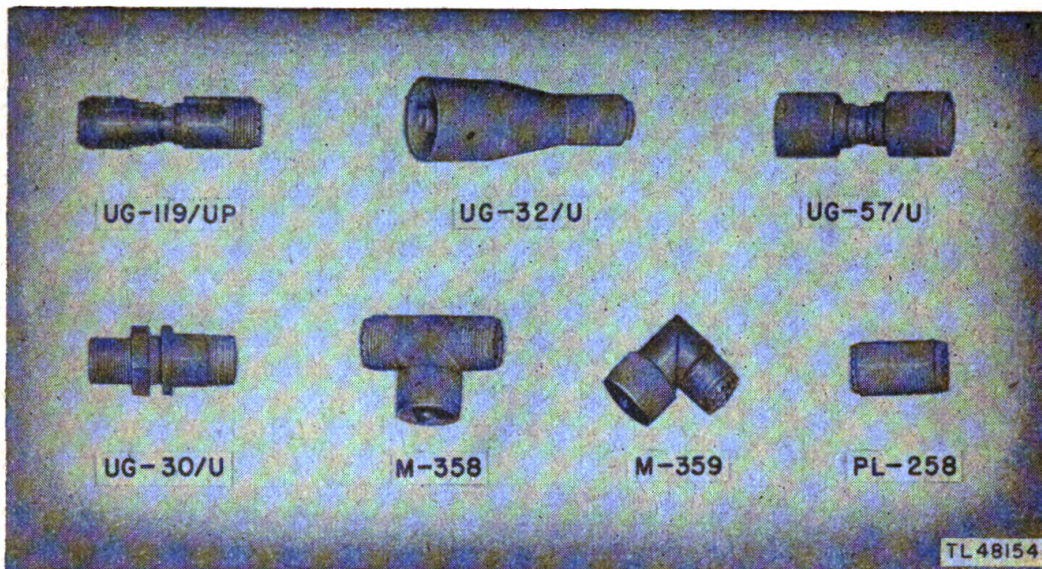

Figure 18. Adapters and plugs.
a. Adapter M-358 (fig. 18) is a T-type connector used to connect Dummy Antenna TS-208/MPM to the receiver of Radar Set AN/TPX-4 for alignment purposes.
b. Adapter M-359 (fig. 18) is a video-type, male-to-male, right-angled connector used with Adapter M-358 to align the receiver of Radar Set AN/TPX-4. It connects Socket SO-239 and Plug PL-259. The male portion of the adapter has a coupling unit to fit Socket SO-239.
c. Radio Frequency Jack UG-30/U (fig. 18) has a type N receptacle at each end. It is used to connect two r-f coaxial cables for increased length.
d. Plug PL-258 (fig. 18) is a video-type connector with two female sockets. It fits the male portion of Plug PL-259 and permits interconnection of cables fitted with Plug PL-259.
f. Crystal Adapter UG-119/UP (fig. 18) has a type N plug on one end and Socket SO-239 on the other end. The adapter serves as a holder for Tube 1N21B, used with Signal Generator TS-155B/UP.
g. Radio Frequency Coupling UG-32/U (fig. 18) is a coaxial connector used to couple the 50-ohm weatherproof type N connector to a  $\frac{7}{8}$ -inch rigid transmission line.
h. Radio Frequency Adapter UG-57/U (fig. 18) is a splicing adapter, male both ends, for use with a type N connector. The adapter is weather-proof and has an impedance of 50 ohms.